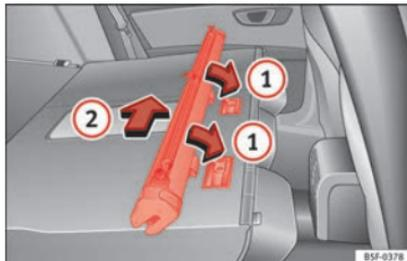

Fig. 170 Assembling the net partition in the rear seat backrests.
- Place the net casing in the rail slots in the direction of the arrows » Fig. 170 ①.
- Push the casing towards the left side of the vehicle in the direction of arrow » Fig. 170 ② and as far as it will go.
- Pull the net casing out approximately 5 cm in the opposite direction to the arrow » **Fig. 170 ②**.
- Remove the casing from the rails by pulling in the opposite direction to the arrows » **Fig. 170 ①**.